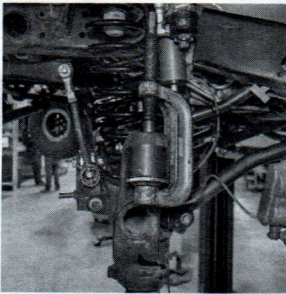

Figure 10. Upper Ball Joint Removal
13. Remove the dust boots from all the ball joints and wipe up all old grease. First, press out the upper ball joint 'down' out of the housing, then press the lower ball joint 'down' out of the housing. See **Figures 10 and 11.**